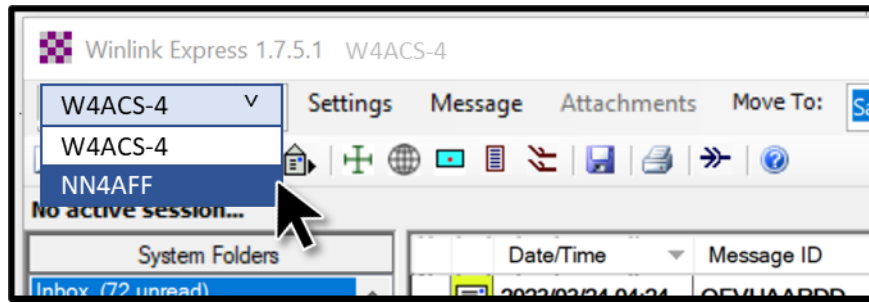

Figure 6. Winlink Call Sign Pull-Down Menu
- b. Refer to Table I for SHARES call sign information and Figure 6 for call sign selection window location.